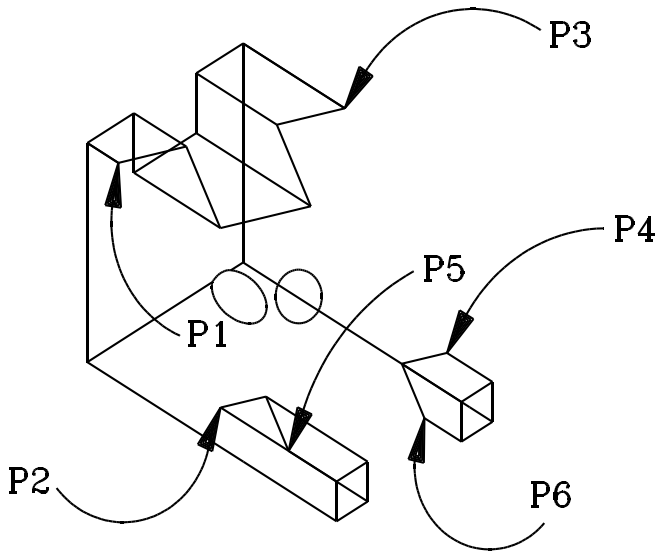

Figure 27
68. Click on ERASE. (See Figure 27 for the results of the erase.)